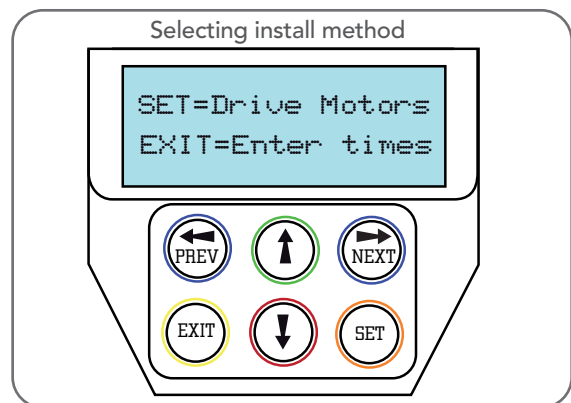

Fig I.2
- DCB-05V2 will now prompt for the setup procedure to be selected. There are 2 methods (**Fig. I.2**);